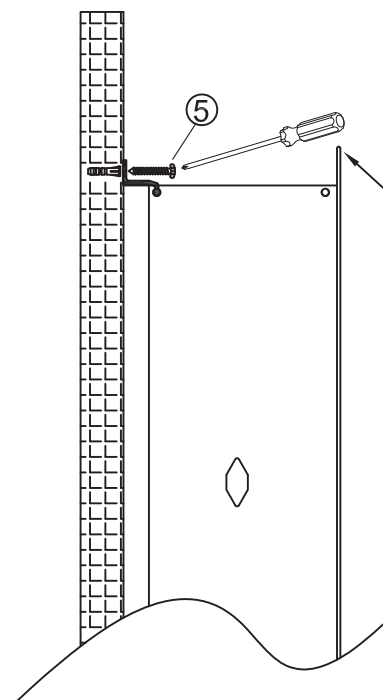

Fig 13
6 .Remount cabinet and connect with #10 x 1 1/2" ⑤ screws (Fig 13). Be careful not to damage or scrape the top flange